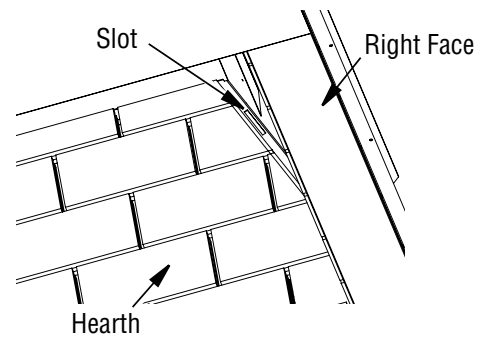

Figure 29 - Slots for Firebrick Walls
2. Install the left and right firebrick walls. There is a bracket with 2 tabs on the bottom of each firebrick wall. Angle the wall into the fireplace opening and into the slots on the side of the hearth (Figure 29), then tilt the top of the panel toward the firebox surround.